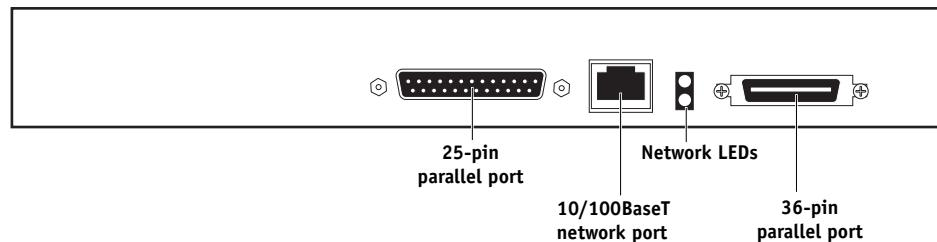

FIGURE 4-2 External connectors on the E-750
- All external cables are plugged into the proper external connectors on the E-750 faceplate (see Figure 4-2).